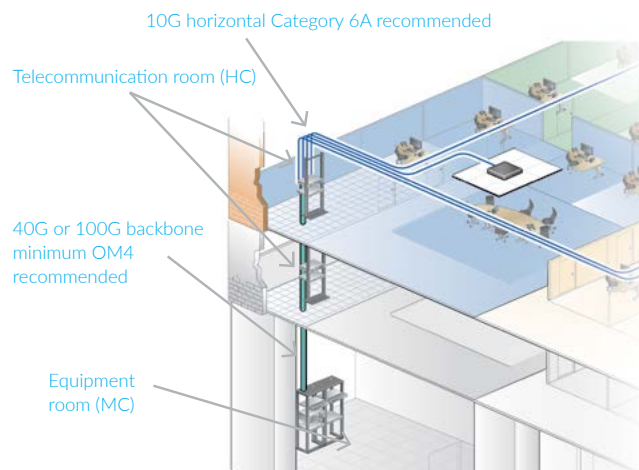

Figure 2. Building backbone cabling system
First, let's map the backbone and where it connects. Backbone cabling provides interconnections between access provider (AP) space, entrance facilities (EFs), equipment rooms (ERs), telecommunication rooms (TRs), and telecommunication enclosures (TEs) (see Figure 2).
ANSI/TIA-568.3-D recommends deploying a hierarchical star topology for the backbone, with no more than two levels of cross-connections. For the simplest design, the main cross connect (MC) in the ER feeds directly to the horizontal cross connect (HC) in the TR on each floor, as shown in Figure 2. Optional intermediate cross connects (IC) may be positioned between the MC and HC.